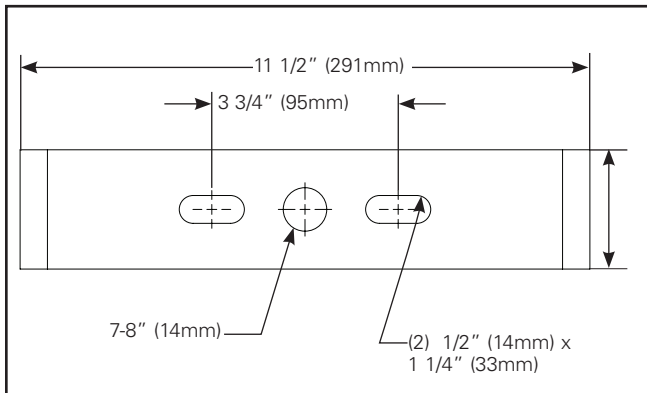

Figure 1.
1. Mount luminaire to surface using the hole pattern provided on the trunnion bracket (Figure 1).